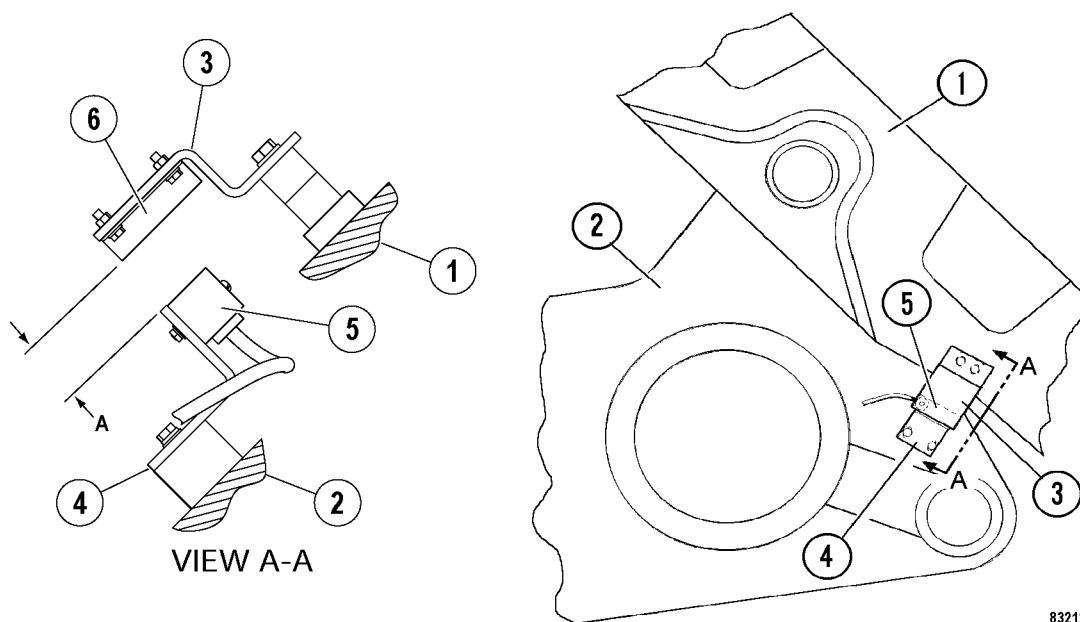

FIGURE 3-9. HOIST LIMIT SWITCH
When the hoist cylinders approach maximum stroke and the body pivots on the pins, actuator arm (3, Figure 3-9) or magnet assembly (6) moves close enough to magnetically-operated proximity switch (5) to close the electrical contacts. When the contacts close, an electrical signal is sent to the hoist limit solenoid valve, located in the hydraulic brake cabinet, to prevent further oil flow to the hoist cylinders.